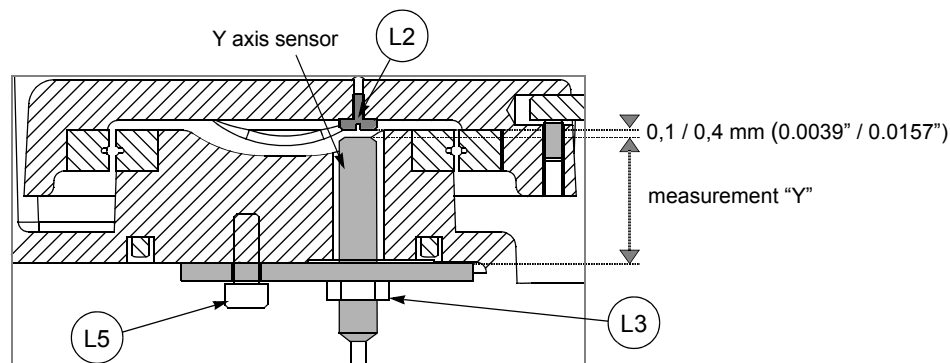

Fig. 78
- 5) disconnect the bottom axis (Y) sensor from the circuit board.
- 8) loosen the nut (L3), loosen the sensor from the plate and remove (fig. 78).
- 10) place the new sensor in position and screw down to the "Y" measurement (fig. 78), secure with the nut (L3).